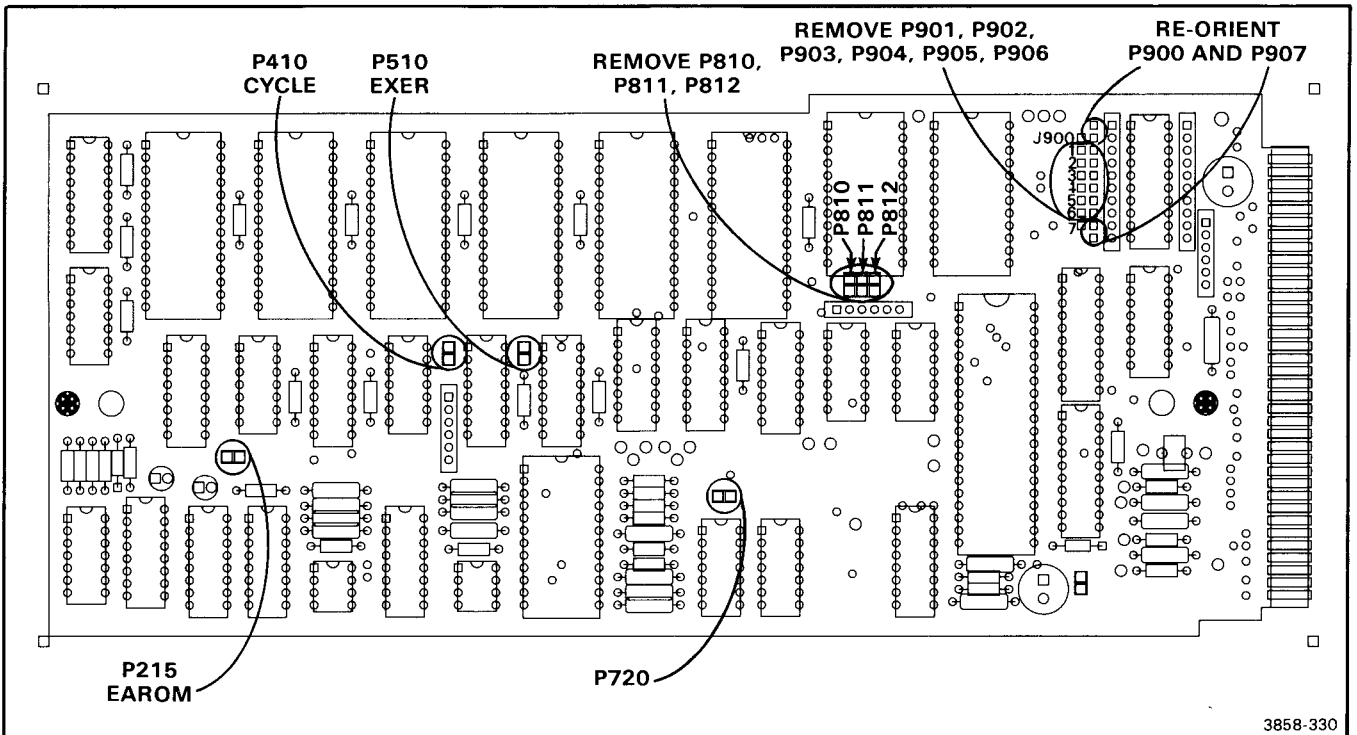

Figure 3-33. Configuration of jumper connectors on MPU Board for Forced Instruction Freerun.
7. Remove P900 and P907, then install them as shown in Figure 3-33.
8. Check that the connector installation matches that shown in Figure 3-33.